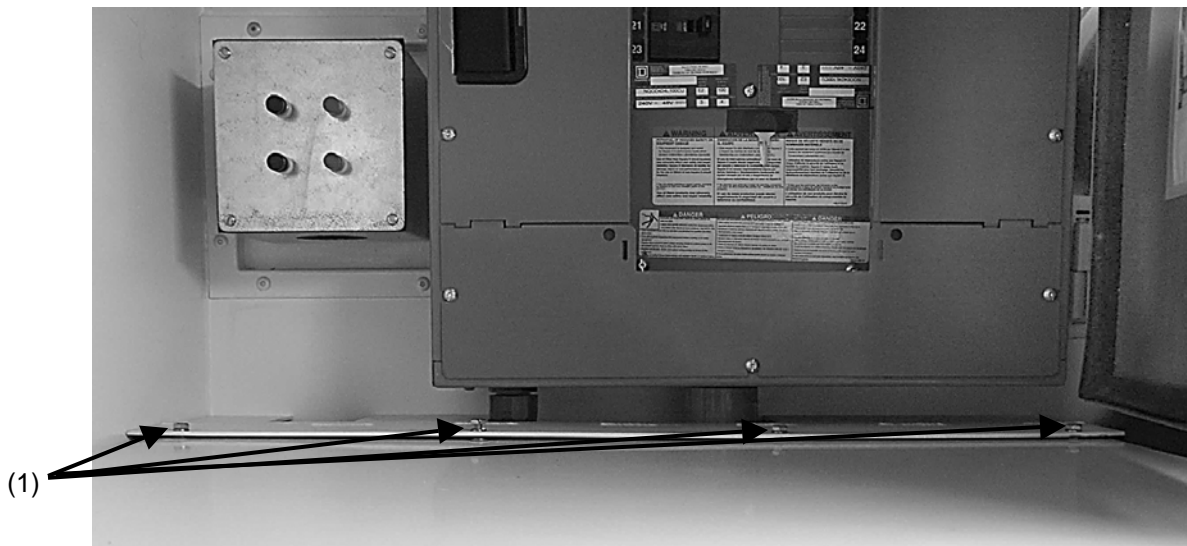

Figure 4-27. Top of computer cabinet.
1. Using a 7/16" wrench (WP 0058 00, SATS Base Tool Component List), remove four bolts (1) and four lock washers from top of computer station (Fig. 4-27). Discard lock washers.